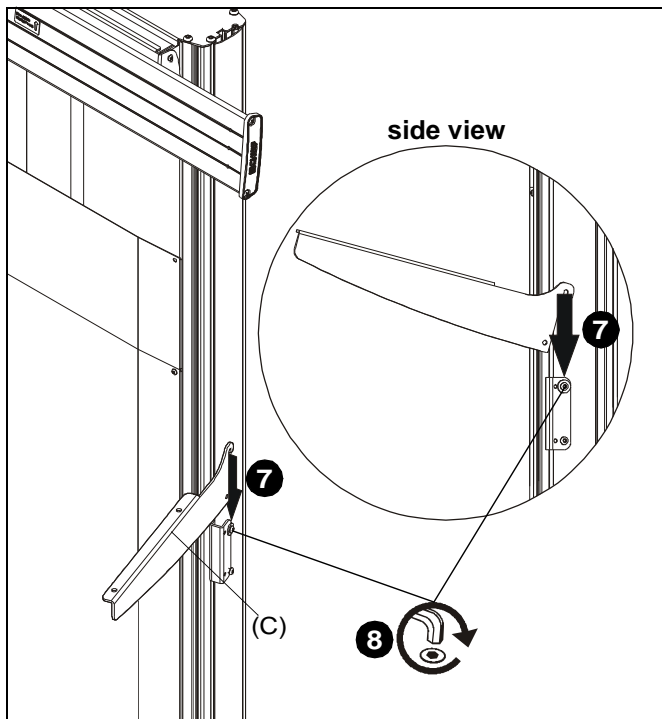

Figure 5
7. Hang shelf support (B or C) onto top screw installed in Step 6. (See Figure 5)
8. Tighten top screw to ensure shelf support is secured in position. (See Figure 5)